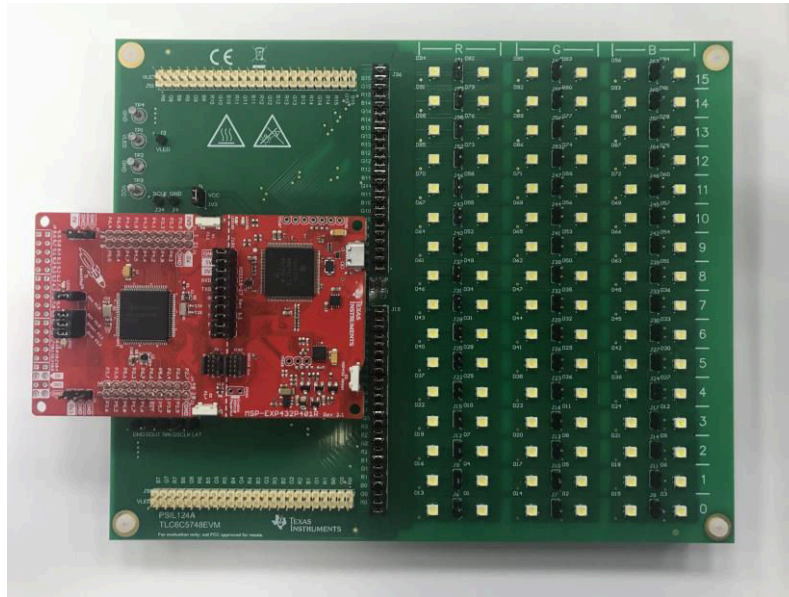

Figure 2-7. The direction of BoosterPack
Step 3: EVM testing requires MSP-EXP432P401 Launchpad, which can be ordered from TI store. Plug MSP-EXP432P401 Launchpad into TLC6C5748EVM using BoosterPack Headers in the direction as shown in Figure 2-7.